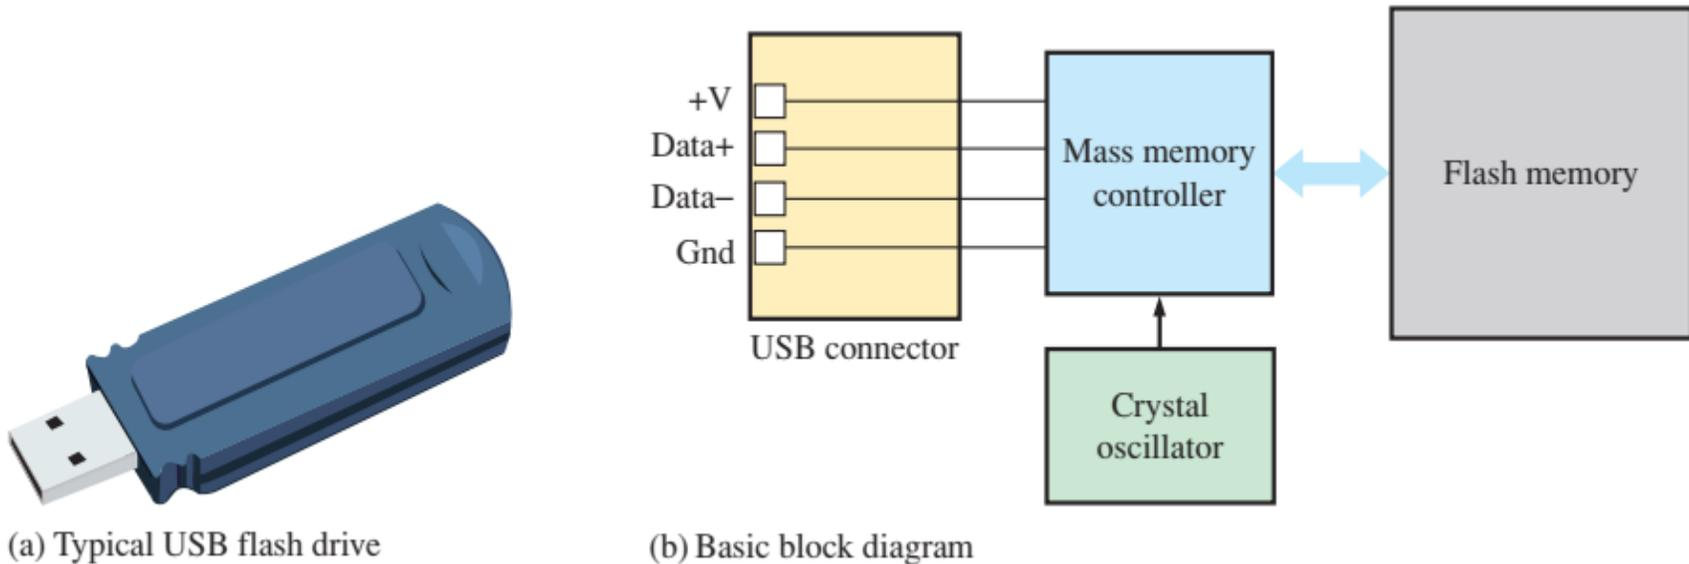
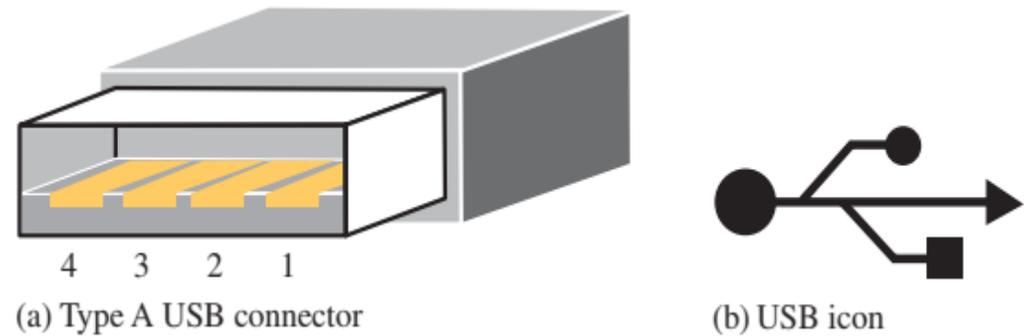

Fig. 2-23.
Fig. 2-24.
- ❑ A typical flash drive is shown in Fig. 2-23. Figure 2-24 shows the type-A USB connector and the USB icon.